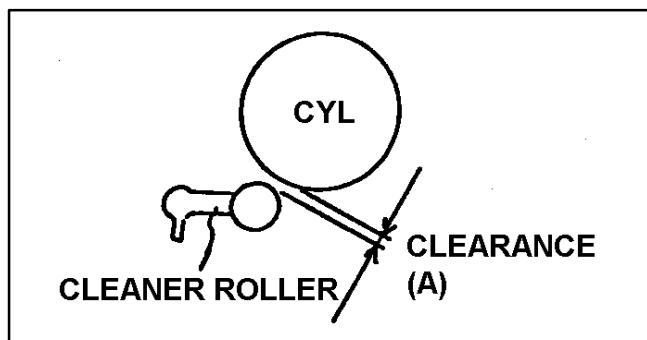

Figure 1-24-4
1. Observe the clearance (A) between Cleaner Roller and cylinder Unit as shown in Figure 1-24-4. And make sure that it is within 1.0 to 1.2mm.
2. If not, loosen the 2 screws (B) and adjust the position of Cleaner Base Plate by moving arrow direction (A \longleftrightarrow A) using the Eccentric driver so that the clearance (A) is within specification. And tighten the 2 screws (B).